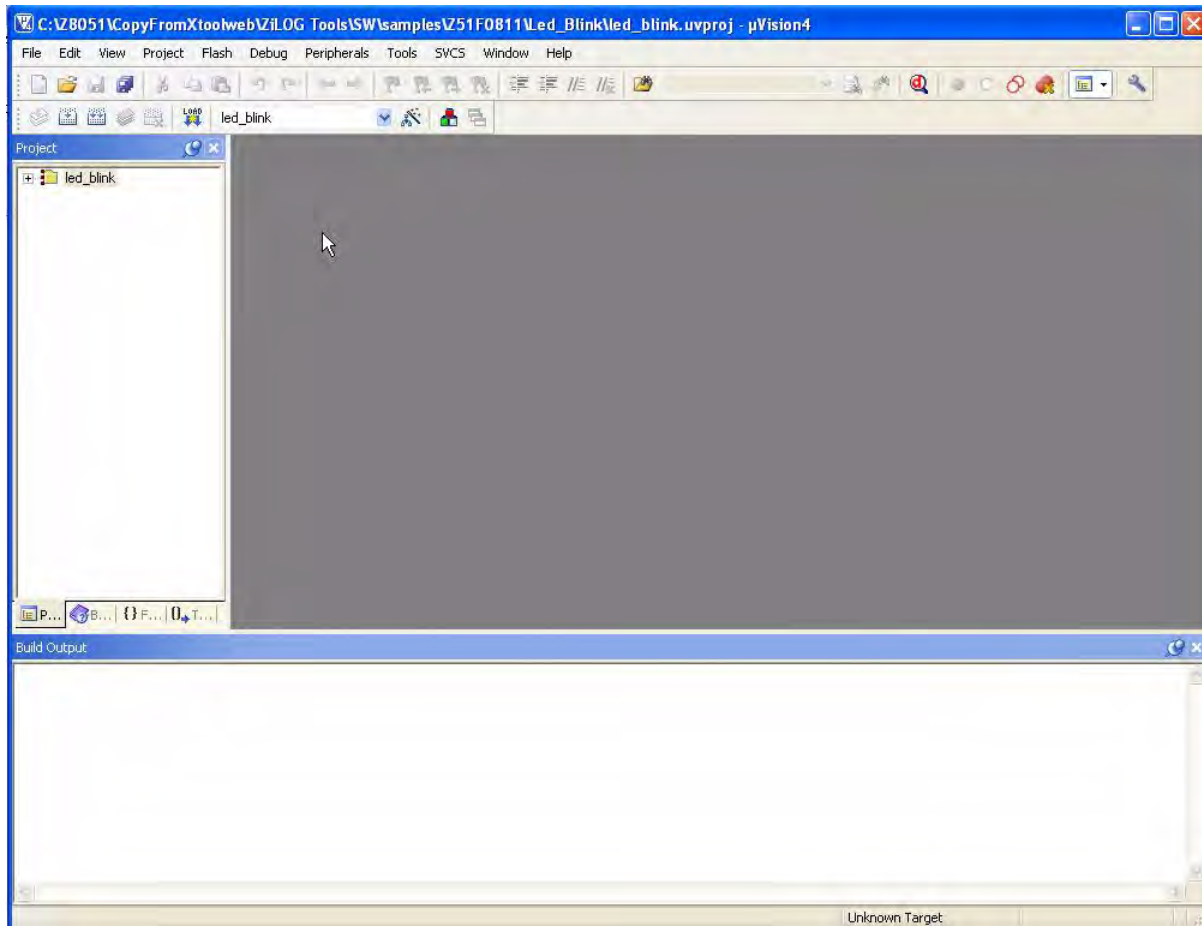

Figure 5. Opening The led\_blink Project
2. Locate and select a uVision project file called `led_blink.uvproj`, and click **Open**. In the left-hand pane of the IDE, an item called `led_blink` appears with a plus sign icon ([+]) next to it, as shown in Figure 5. This top-level `led_blink` entity is what uVision calls a *target*; i.e., the ultimate entity that will be built. You can think of this *target* as representing the executable you will build.